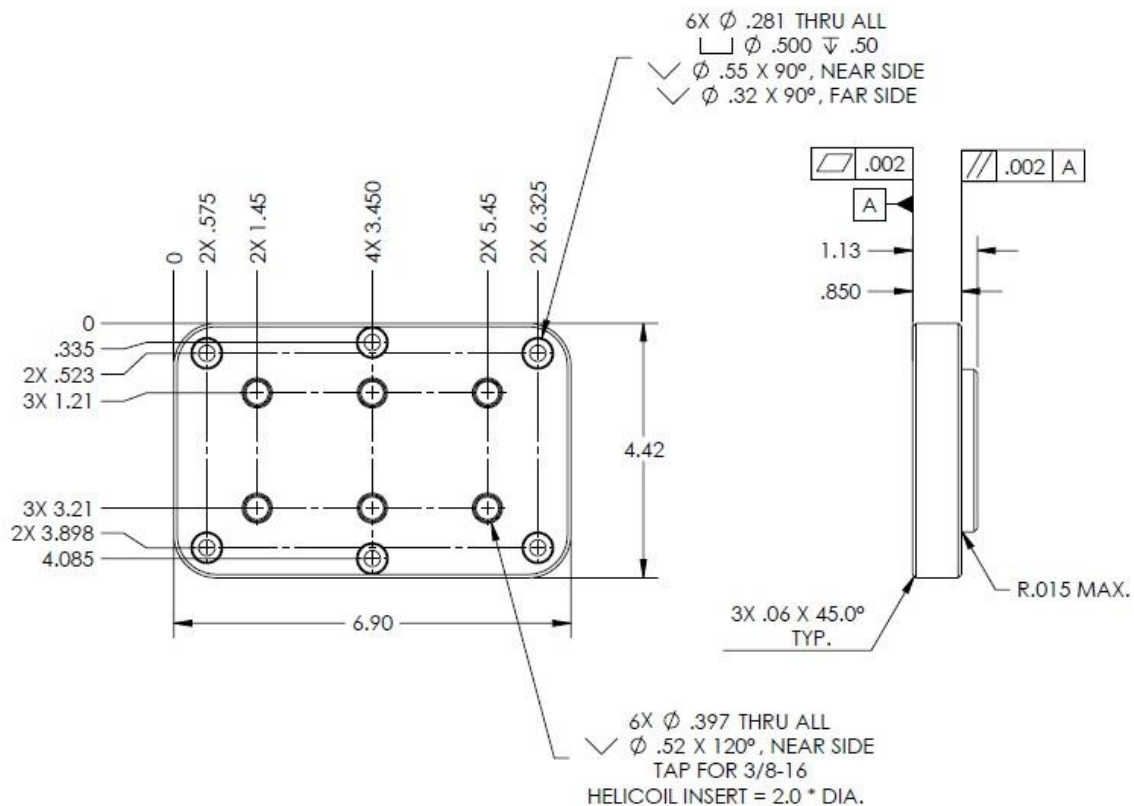

Figure 118: Prep Work for D0902487 Spring Hatch
(6) 3/8-16 x 2 DIA Helicoils
- Install Nitronic 60 Helicoil threaded inserts into D0902487 (see Figure 118).